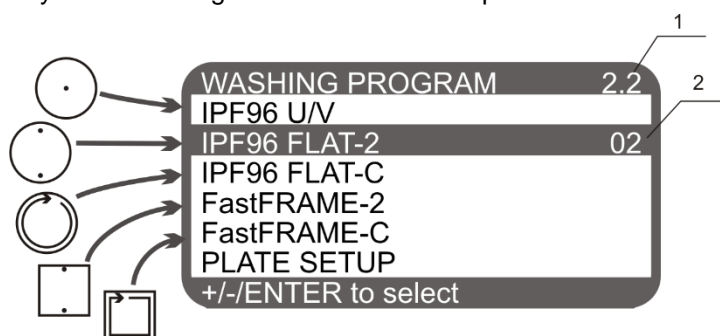
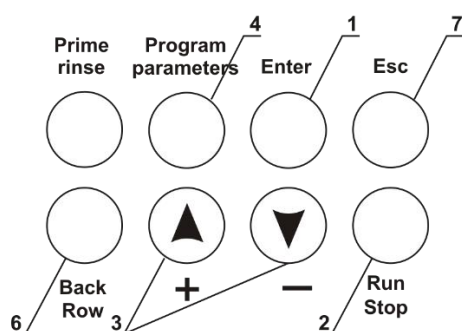

Fig. 4. Program selection
Fig. 5. Control panel
- 4.4. Use the **Enter** (fig. 5/1) key to select category, depending on the used plate type. Use the **+** and **-** keys (fig. 5/3) to select required washing program from 1 to 10. Program category and number are displayed in the top right corner of the display (fig. 4/1)
- 4.5. Press the **Program Parameters** key (fig. 5/4) to view the parameters of program. In the program, 1st parameter is activated (Dispense...yes/no, fig. 5/5).
- 4.7. Press the **Back row** key (fig. 5/6) to return to the previous parameter in the program.
- 4.9. Press the **Esc** key (fig. 5/7) to exit parameter view and change mode without saving.
- 4.10. Press the **Run/Stop** key (fig. 5/2) to start the program.
- 4.11. If it is necessary to wash less than 12 rows on a microplate, press the **Rows** key (fig. 5/6) before starting. Following message appears on the display, figure 6.